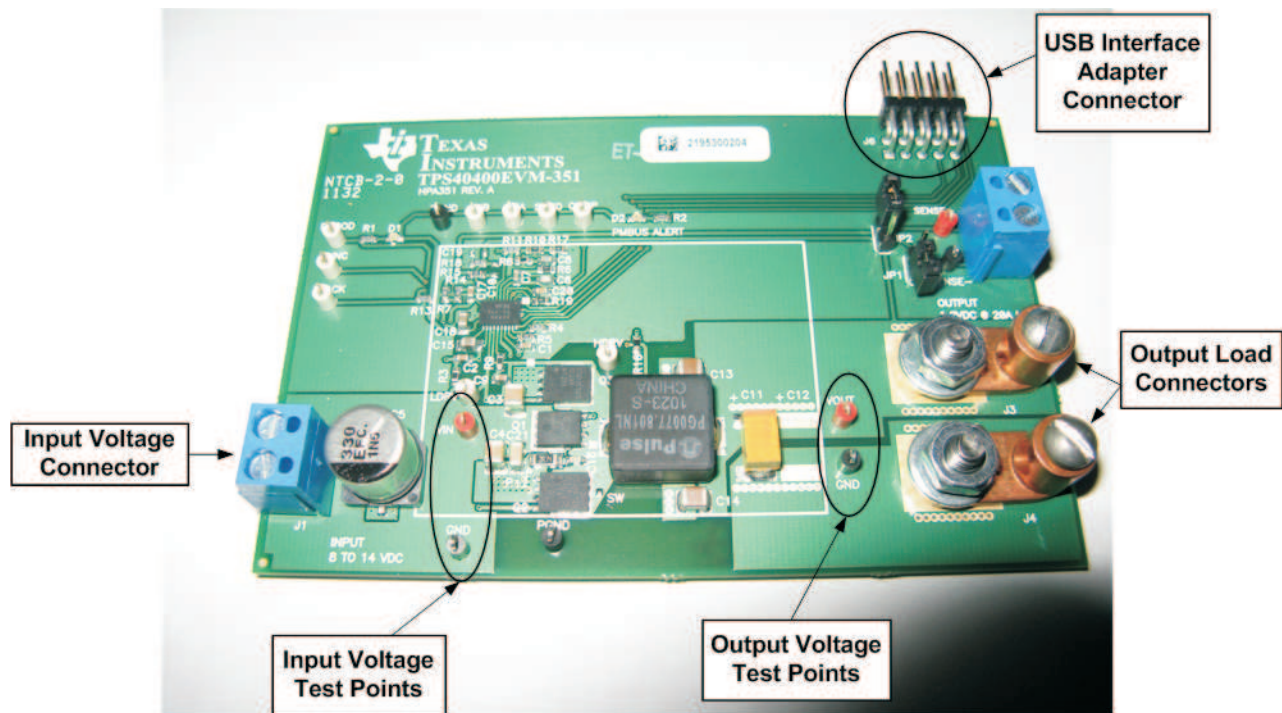
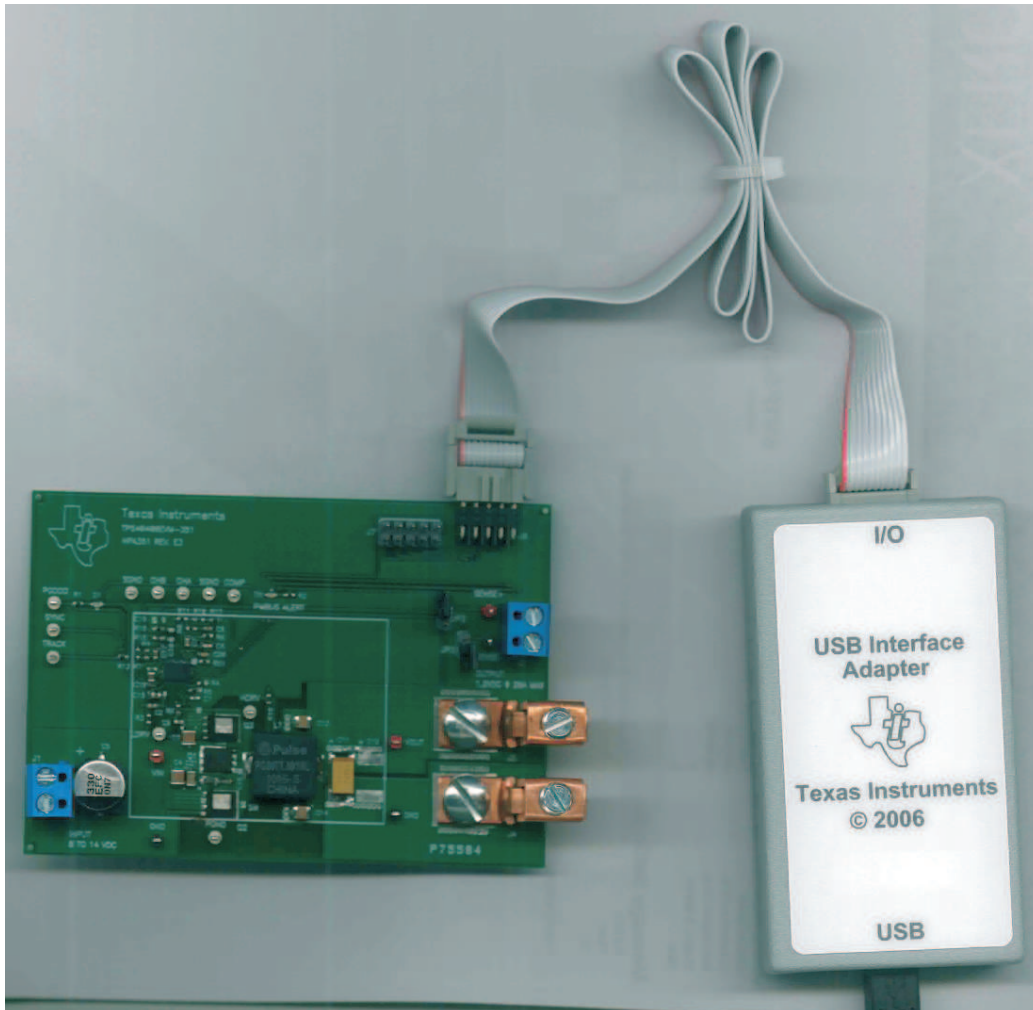

Figure 3. TPS40400EVM-351 Recommended Test Set Up
Figure 4. TPS40400EVM-351 USB-To-GPIO Interface Adapter
Fusion Digital Power Designer is the Graphical User Interface (GUI) used to configure and monitor the Texas Instrument's TPS40400 power controller on this Evaluation Module (EVM). The application uses the PMBus protocol to communicate with the controller over serial bus by way of a TI USB adapter (see Figure 4).
The input voltage source V_{IN} should be a 0-V to 14-V variable DC source capable of supplying 10 A_{DC} . Connect V_{IN} to J1 as shown in Figure 3.
Figure 3 is the recommended test set up to evaluate the TPS40400EVM-351. It is recommended to work at an ESD-safe workstation while testing the EVM.
1. Prior to connecting the DC input source V_{IN} , it is advisable to limit the source current from V_{IN} to 10 A maximum. Make sure V_{IN} is initially set to 0 V and connected as shown in Figure 3.
2. Apply the input voltage to the EVM. Refer to Figure 3: and Figure 4: for connections and test setup.
1. Set up EVM as described in Section 5.3 and Figure 3.